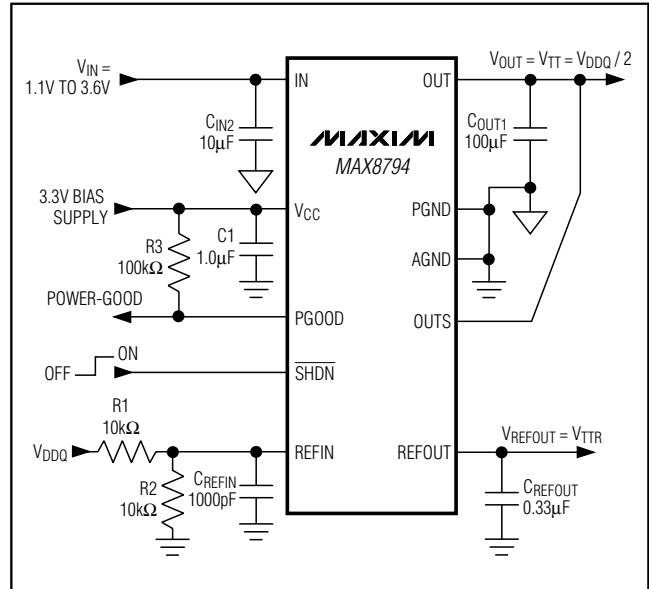

Figure 1. Standard Application Circuit
($V_{IN} = 1.8V$, $V_{CC} = 3.3V$, $V_{REFIN} = V_{OUTS} = 1.25V$, $\overline{SHDN} = V_{CC}$, circuit of Figure 1, $T_A = -40^{\circ}C$ to $+85^{\circ}C$, unless otherwise noted. Typical values are at $T_A = +25^{\circ}C$.) (Note 1)
(Circuit of Figure 1. $T_A = +25^\circ\text{C}$, unless otherwise noted.)
The MAX8794 is a low-voltage, low-dropout DDR termination linear regulator with an external bias supply input and a buffered reference output (see Figures 1 and 2). VCC is powered by a 2.7V to 3.6V supply that is commonly available in laptop and desktop computers. The 3.3V bias supply drives the gate of the internal pass transistor, while a lower voltage input at the drain of the transistor (IN) is regulated to provide VOUT. By using separate bias and power inputs, the MAX8794 can drive an n-channel high-side MOSFET and use a lower input voltage to provide better efficiency.
The MAX8794 regulates OUTS to the voltage set at REFIN, making the MAX8794 ideal for memory applications where the termination supply must track the supply voltage. Typically, REFIN is set by an external resistive voltage-divider connected to the memory supply (VDDQ) as shown in Figure 1.